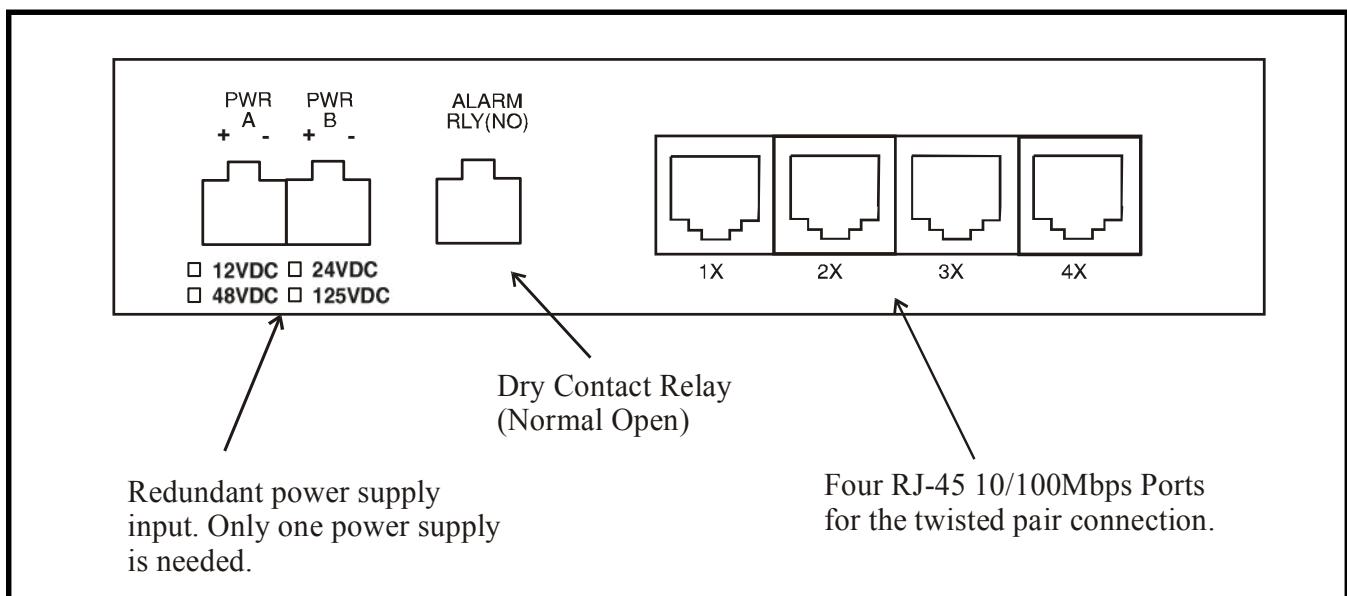

Figure 2. TC3705's Rear Panel
- B. The TC3705's power connectors are two terminal blocks located on the rear panel of the unit. Polarity is indicated on each connector block (see Figure 2).
A terminal block connector on the rear panel (labeled "ALARM") provides for the optional dry contact relay alarm (see Figure 2). Normally in the OPEN position, any loss of optical signal will trigger an alarm condition and force the switch to the CLOSED position. This relay can be used in conjunction with an external device to monitor the condition of the fiber optic links.